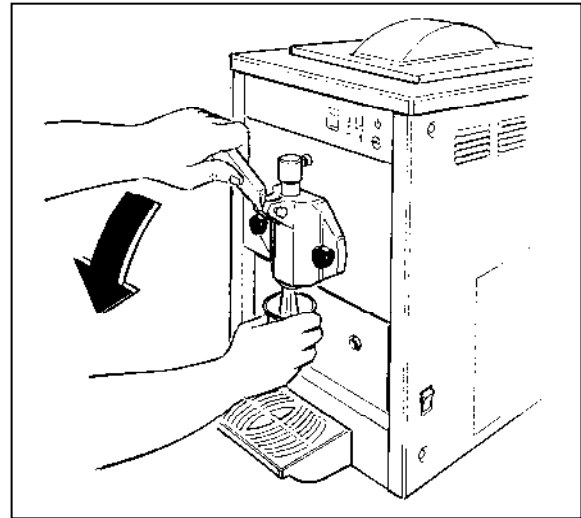

Fig. 10
- To dispense, place a glass under the tap and pull the lever as shown in fig. 10.